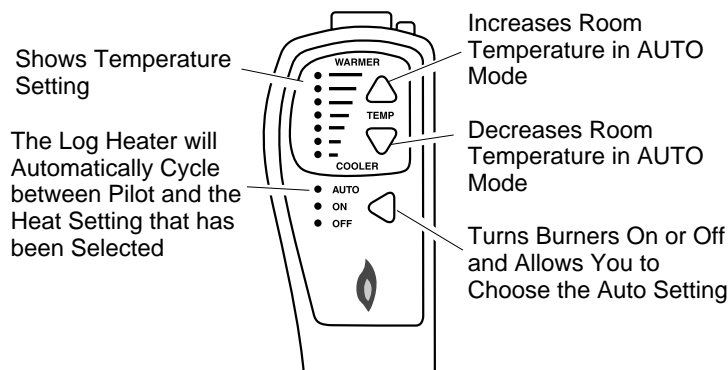

Figure 28 - Thermostat Hand-Held Remote Control Unit Selections (GHRCTA Series Only)
- b. Press the AUTO/ON/OFF button on the hand-held remote control (see Figure 28). The lights to the left of the button will show AUTO, ON, or OFF.